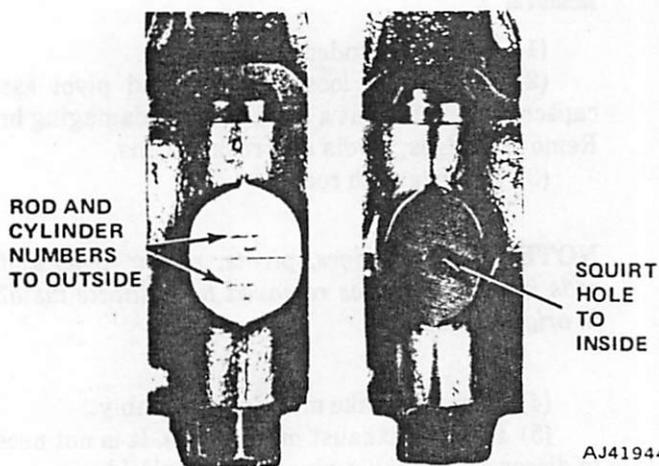

Fig. 1B-130 Rod Number and Squirt Hole Location
- (1) Thoroughly clean cylinder bores. Apply light film of clean engine oil to bores with clean, lint-free cloth.
- (2) Arrange spacing of piston ring gaps. Refer to Piston Rings for procedure.
- (3) Lubricate piston and ring surfaces with clean engine oil.
- (4) Use piston ring compressor tool to install connecting rod and piston assemblies through top of cylinder bores. Ensure that connecting rod bolts do not scratch connecting rod journals or cylinder walls. Short lengths of rubber hose slipped over connecting rod bolts will provide protection during installation.
**NOTE:** *Squirt holes in connecting rods must face inward (fig. 1B-130).*
- (5) Install connecting rod bearing caps and inserts in original positions. Tighten retaining nuts with 33 foot-pounds (45 N•m) torque.
- (6) Install engine oil pan using replacement gaskets and seals.